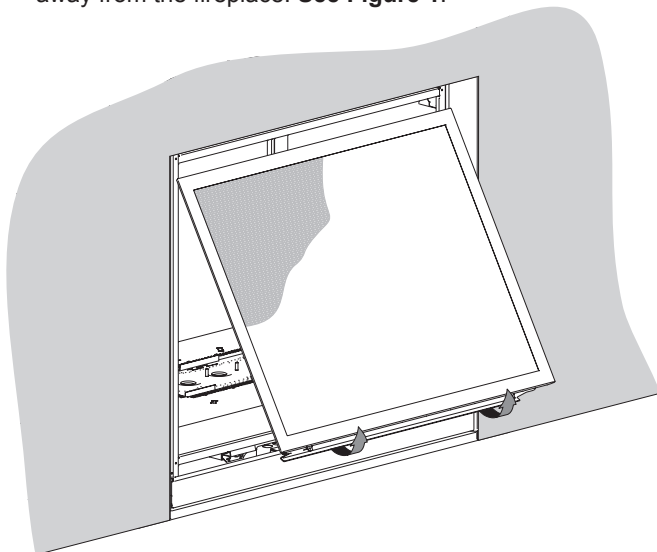

Figure 1
2. The two glass spring-latches are on the bottom of the glass frame. Release them by pulling them away from the fireplace and down. Remove the screen frame and glass frame as a unit (separating them is not necessary) by lifting them up and away from the fireplace. **See Figure 1.**